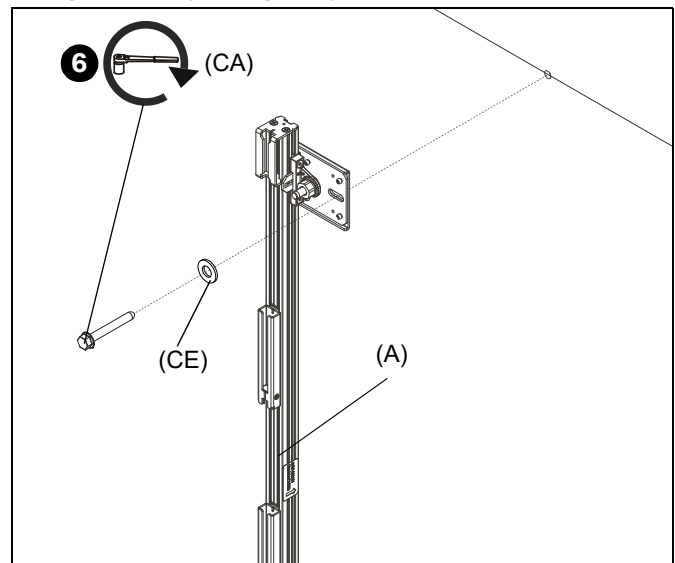

Figure 3
6. Use 5/16 x 2 1/2" hex head lag screw (CA) and 5/16" washer (CE) to loosely install left upright (A) to wall. Center the lag bolt horizontally along mounting slot. PARTIALLY tighten bolt. (See Figure 3)